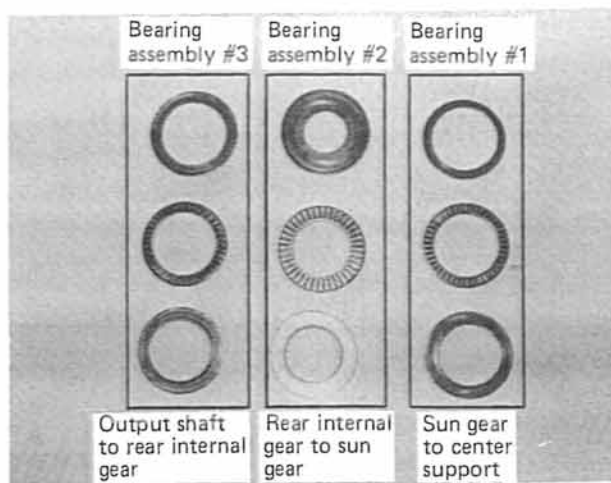

FIGURE 39
**STEP 2.** Separate and inspect the needle bearing assemblies. Check for pitting, wear or cracked races. Check for worn needles. Refer to Fig. 39 and match up bearings and races.